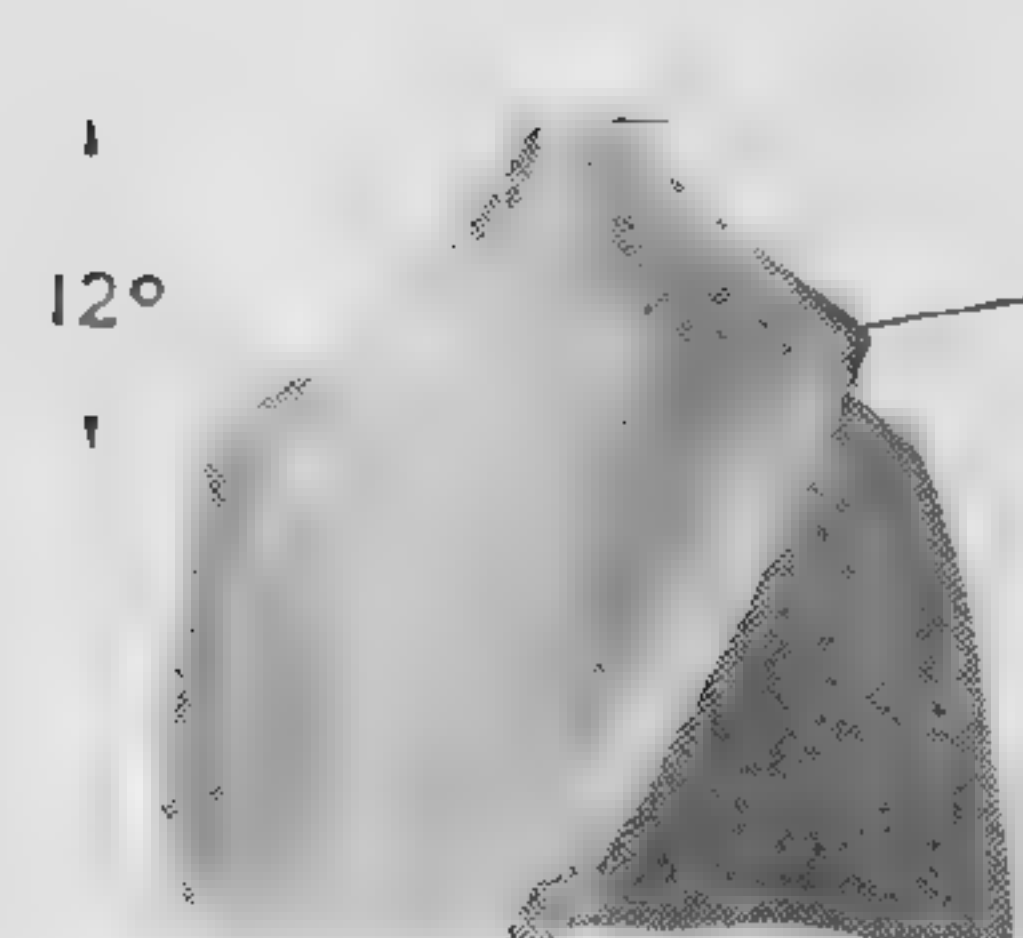

Fig. 24. Correct Lip Clearance Angle
3. The heel or lip clearance angle for best drilling results should be about 12° , as in Fig. 24. This angle is sufficient for clearance and it still provides plenty of metal to give support to the cutting edge.